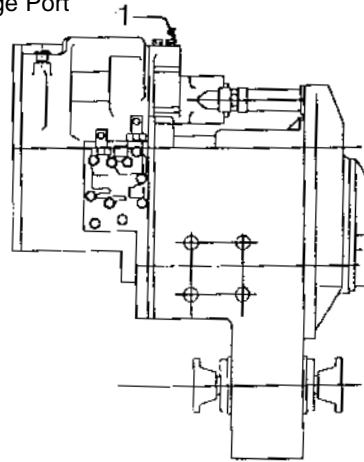

FIGURE 3-51
1. Transmission pressure can be checked on the gauge in the operator's cab. If this gauge is inoperative, attach a pressure gauge to the clutch pressure gauge port (1, Figure 3-51) on the transmission.